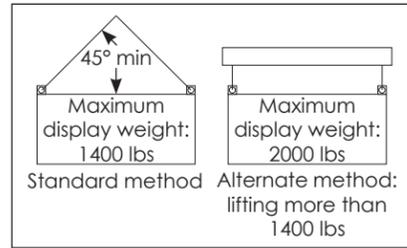
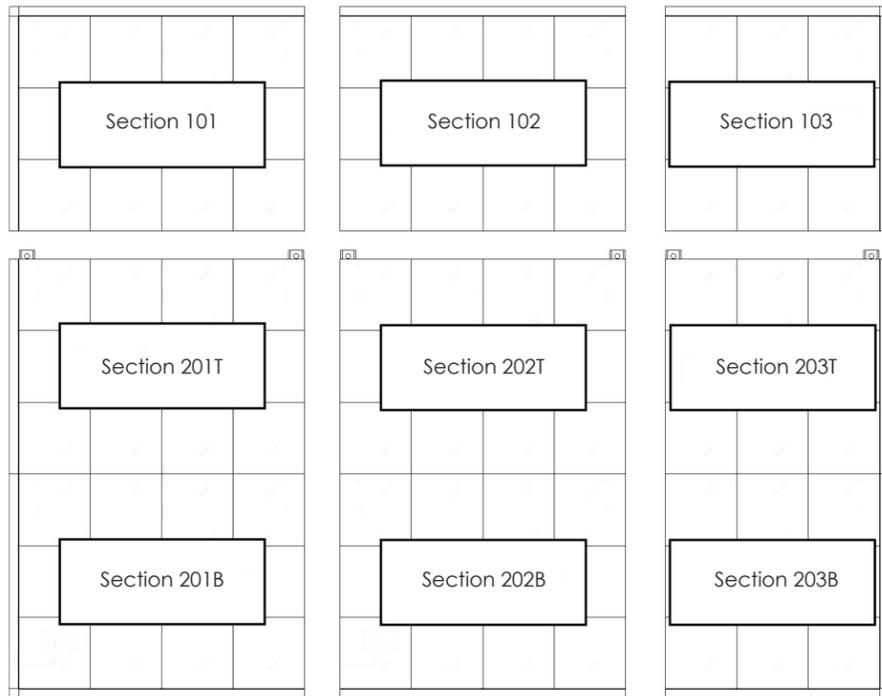

Figure 1: Display Lifting
Figure 2: Front View
2. Use the lifting lugs on the full-height tubes to lift sections into place. Refer to **Figure 1**. Install the bottom-center section (Section 202 in **Figure 2**) first unless otherwise specified.